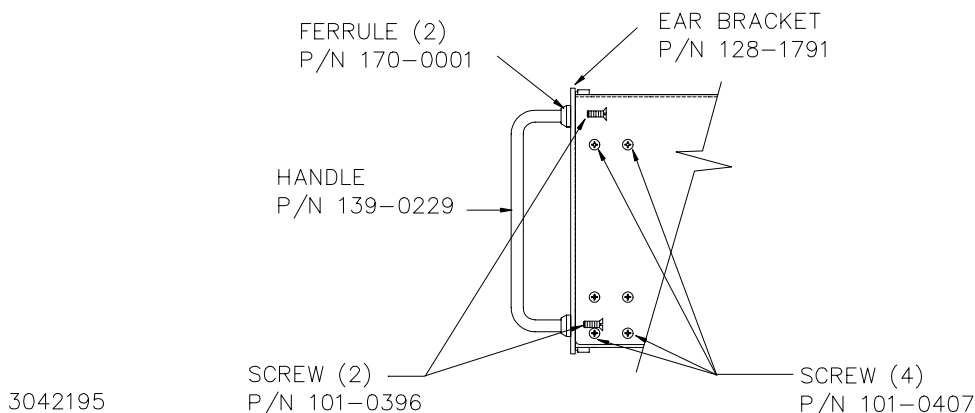

FIGURE 1. MOUNTING EAR INSTALLATION, RIGHT SIDE (TYPICAL)
2.2 PROCEDURE (Refer to Figure 1.)